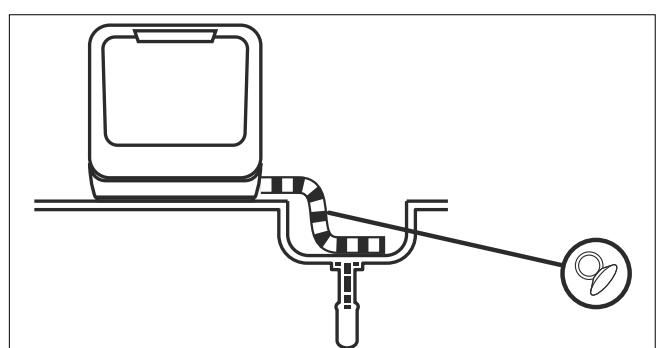
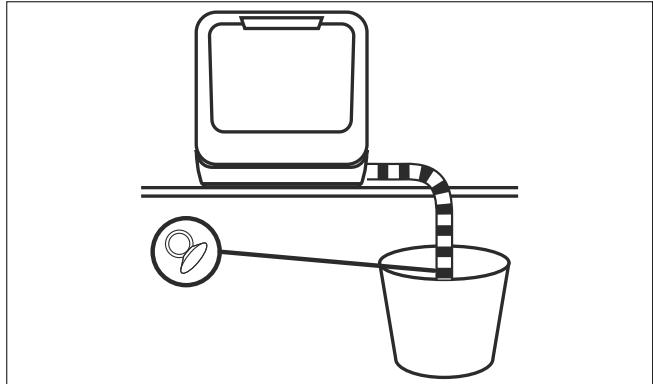

Fig. 10 – Discharging into a sink
Fig. 11 – Discharging into a container
- ▶ Hang the end of the waste water hose in a sink (see **Fig. 10**) or a sufficiently large container (see **Fig. 11**).
- ▶ Once you have connected the washing machine to the water supply and drainage, connect the mains plug (24) to a socket.